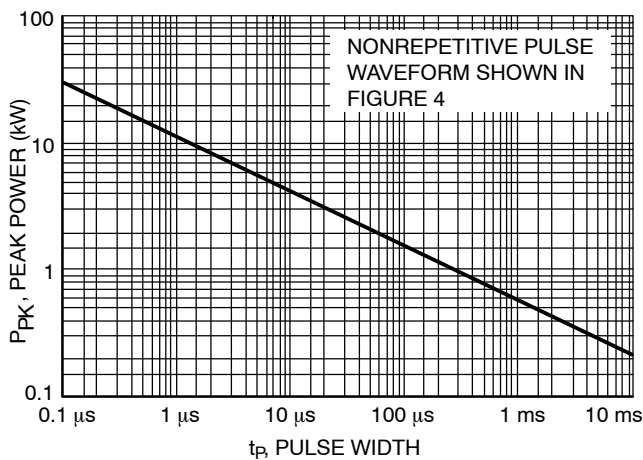
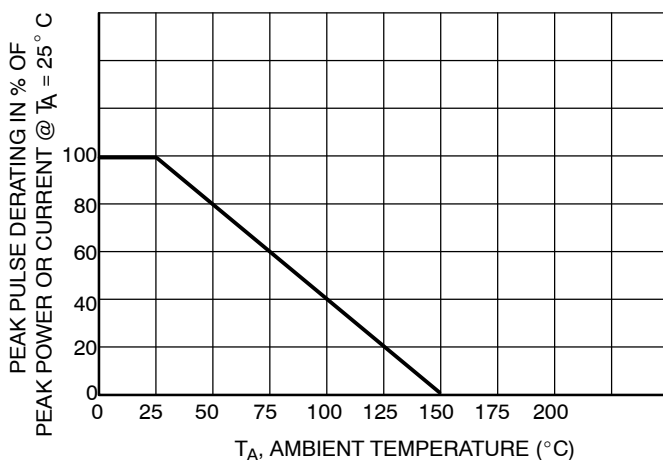
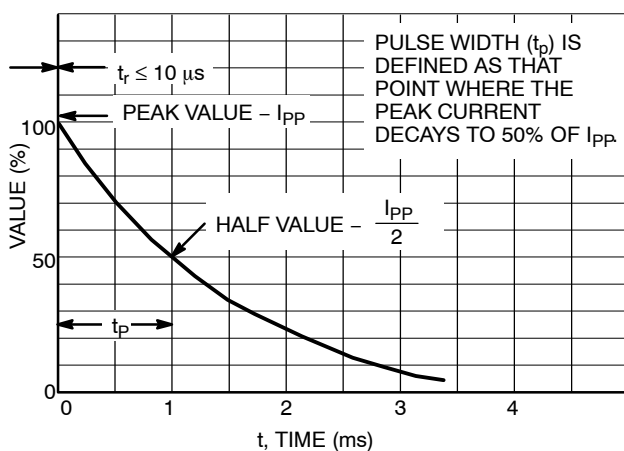
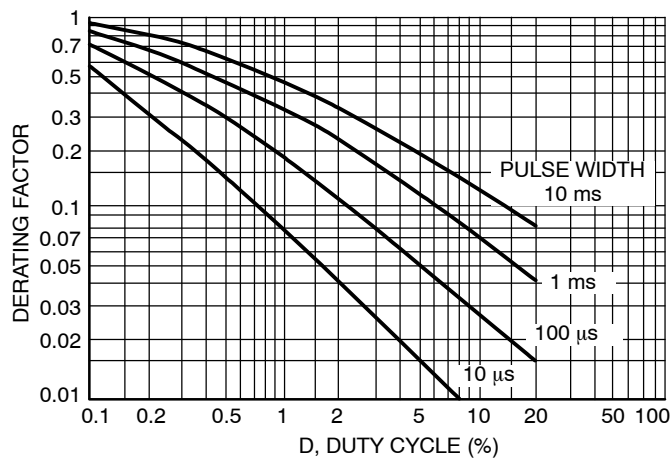

Figure 1. Pulse Rating Curve
Figure 2. Pulse Derating Curve
Figure 4. Pulse Waveform
Figure 6. Typical Derating Factor for Duty Cycle
1. Nonrepetitive current pulse per Figure 4 and derated above  $T_A = 25^\circ\text{C}$  per Figure 2.
5. Surge current waveform per Figure 4 and derate per Figures 1 and 2.
The data of Figure 1 applies for non-repetitive conditions and at a lead temperature of 25°C. If the duty cycle increases, the peak power must be reduced as indicated by the curves of Figure 6. Average power must be derated as the lead or ambient temperature rises above 25°C. The average power derating curve normally given on data sheets may be normalized and used for this purpose.
At first glance the derating curves of Figure 6 appear to be in error as the 10 ms pulse has a higher derating factor than the 10  $\mu$ s pulse. However, when the derating factor for a given pulse of Figure 6 is multiplied by the peak power value of Figure 1 for the same pulse, the results follow the expected trend.